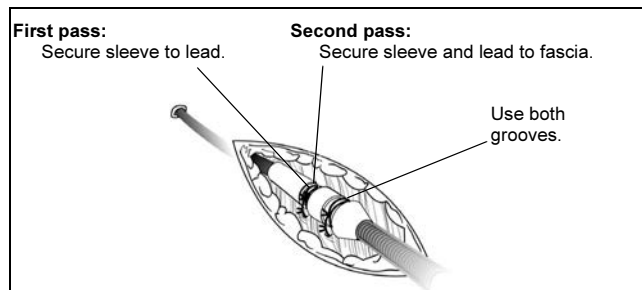

Figure 13. Using the sleeve with the percutaneous implant technique.
1. Peel back the introducer sheath and slide the suture sleeve deep into the tissue (Figure 13).